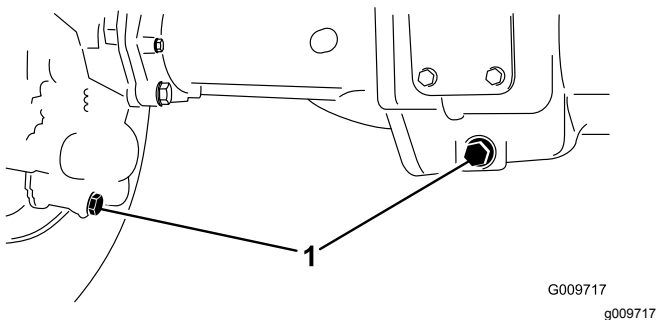

Figure 63
2. Clean the area around the 3 drain plugs: 1 on each end and 1 in the center (Figure 63).